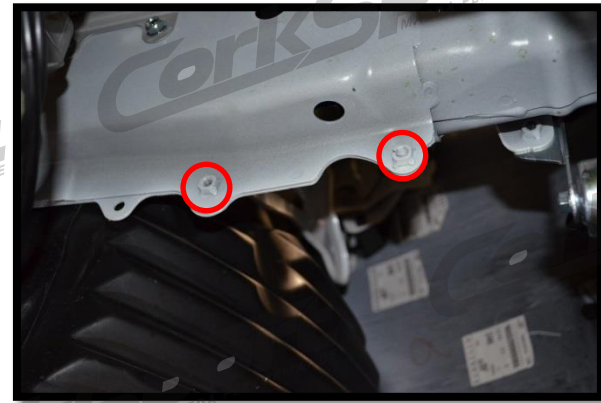

Figure 2b
- 2010+ Mazdaspeed 3: Refer to Figure 2b. There are two unused threaded bolt holes that you will attach the bracket to. Circled in Figure 2b.
- 2010+ Mazdaspeed 3:** Refer to Figure 2b. There are two unused threaded bolt holes that you will attach the bracket to. Circled in Figure 2b.